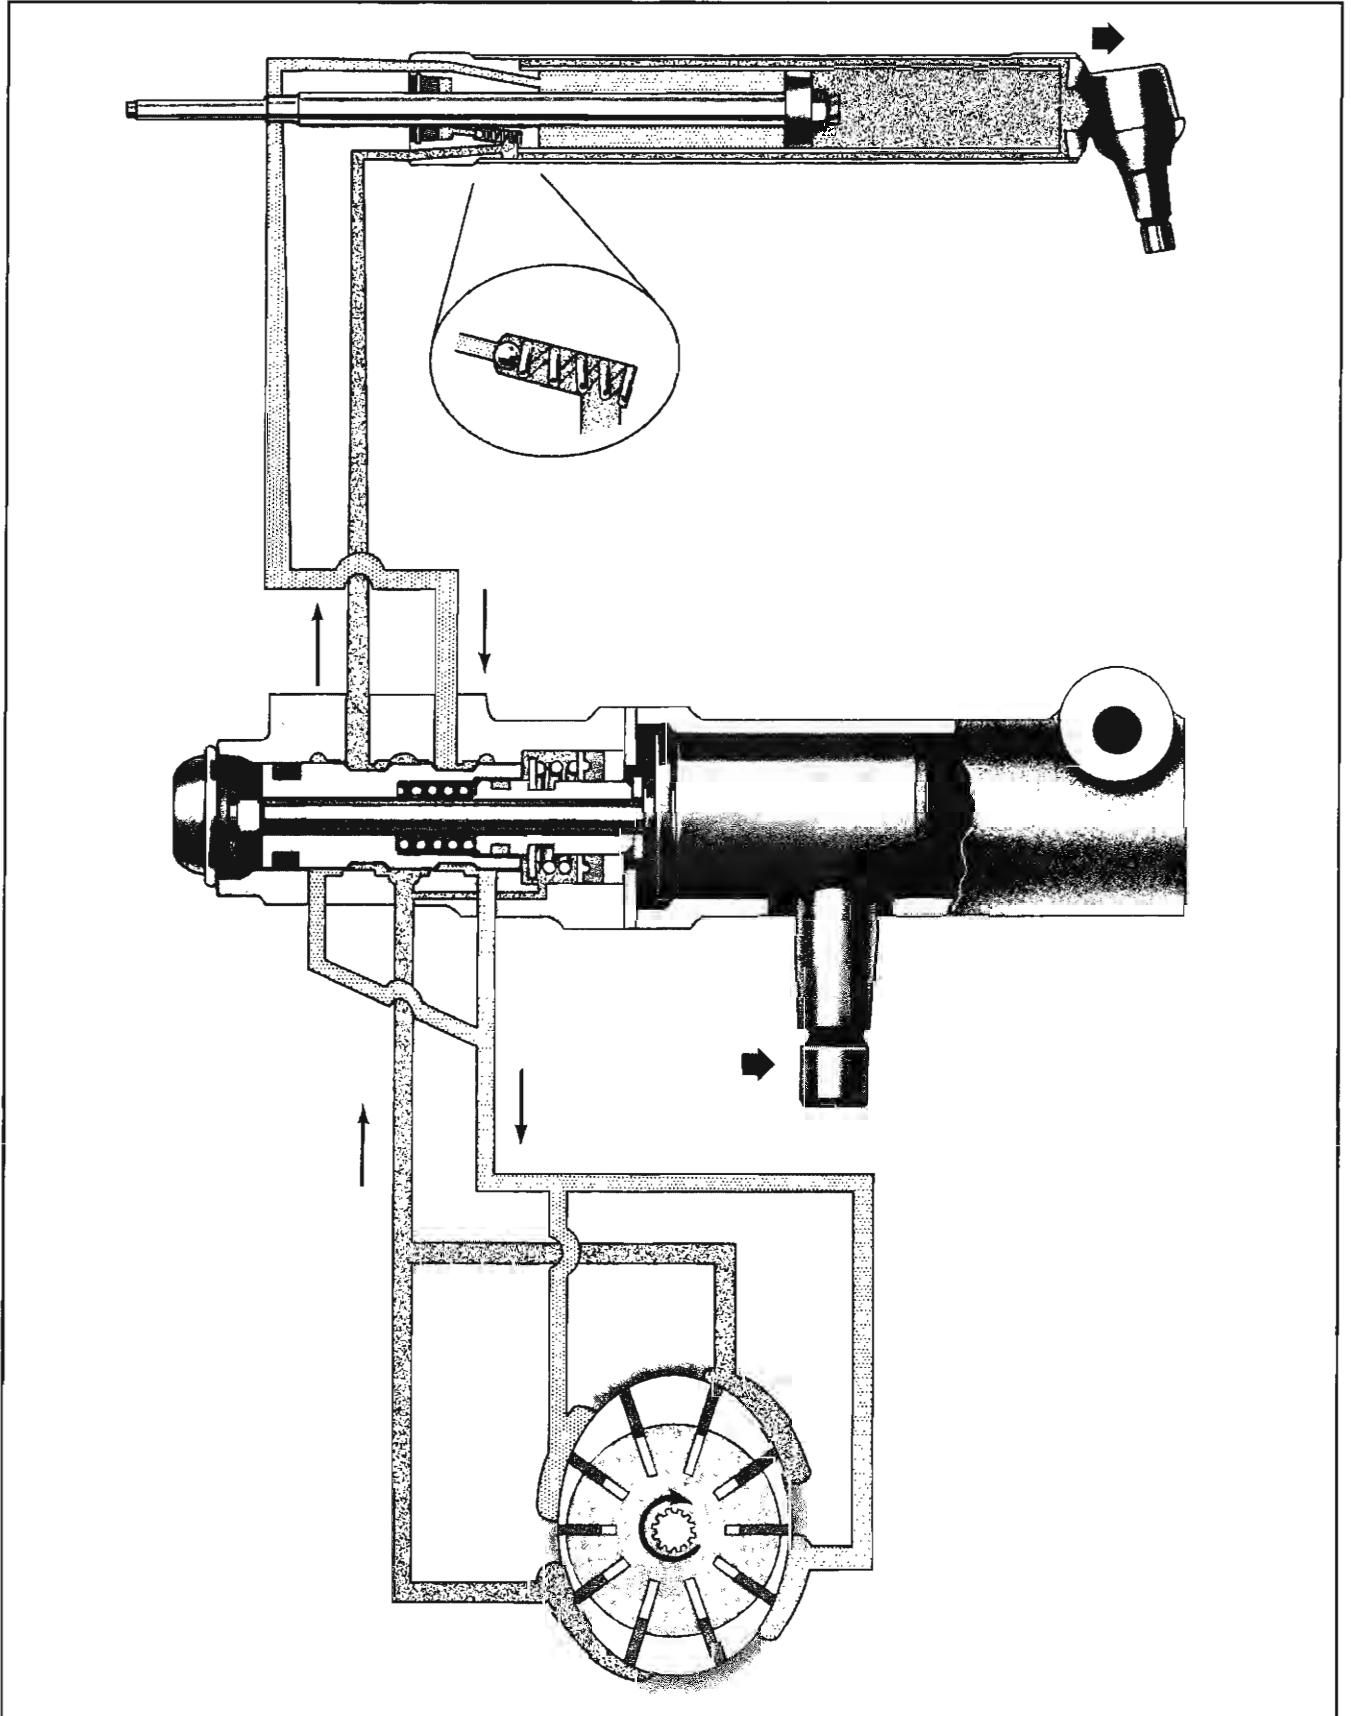

Fig. 9A-25 Operation in Right Turn Position
**LEFT TURN POSITION (FIG. 9A-26)**